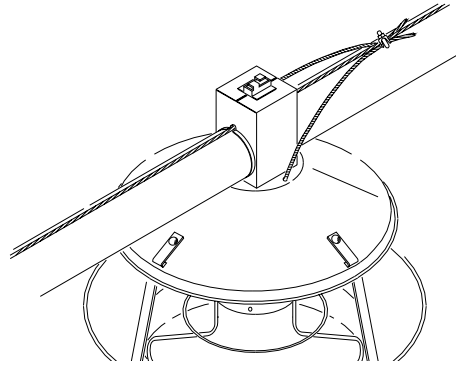

Figure 42. Cable Assembly Installation
8. Thread the cable assemblies through the holes on each side of the pan shield from the underside. Then clamp to the master cable with a cable clamp, see **figure 42**.